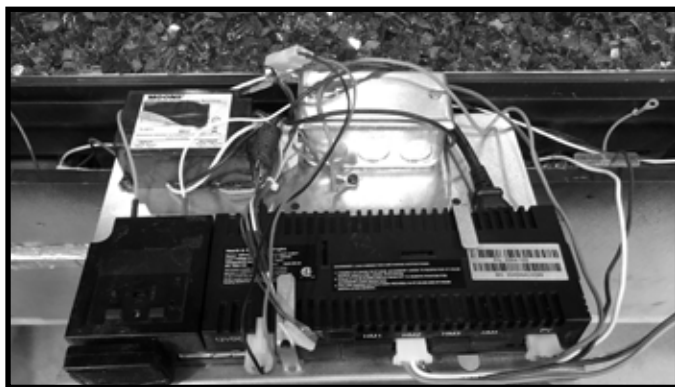
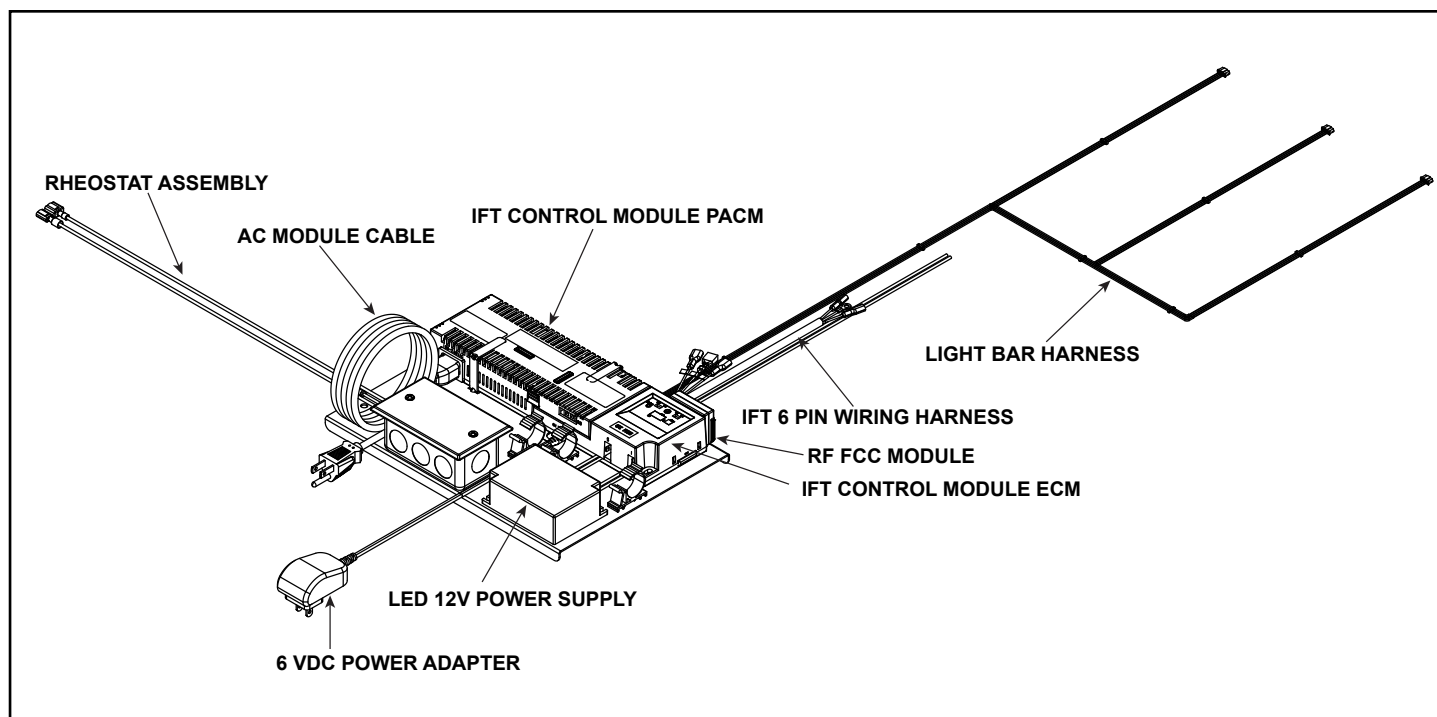

Figure 8.5 Component Tray Removed
Figure 8.6 Component Tray Assembled
8. Lift upward on component tray to remove it from the control cavity of the appliance. Rotate it down to a horizontal position as shown in Figure 8.5. Figure 8.6 shows the layout of the components on the component tray assembly.